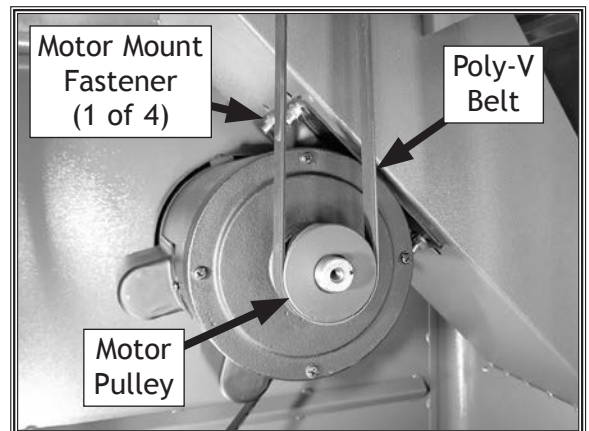

Figure 14. V-belt installed.
- Loosen motor mount fasteners shown in Figure 14. DO NOT completely remove fasteners.
- Slide motor upward, place poly-V belt around cutterhead pulley and motor pulley, then slide motor down to rest on belt (see Figure 14).
15. Tighten motor mount fasteners (see **Figure 14** on **Page 20**).